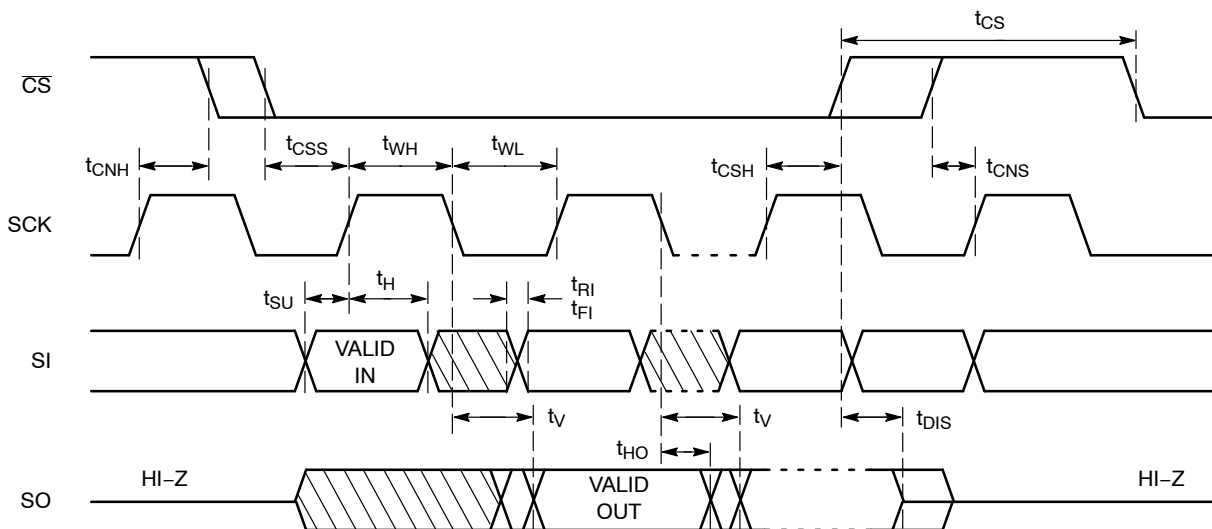

Figure 2. Synchronous Data Timing
9. **All Chip Select (CS) timing parameters are defined relative to the positive clock edge (Figure 2). t_{CSH} timing specification is valid for die revision C and higher. The die revision C is identified by letter “C” or a dedicated marking code on top of the package. For previous product revision (Rev. B) the t_{CSH} is defined relative to the negative clock edge.**
After a high to low transition on the $\overline{CS}$ input pin, the CAT25256 will accept any one of the six instruction op-codes listed in Table 10 and will ignore all other possible 8-bit combinations. The communication protocol follows the timing from Figure 2.